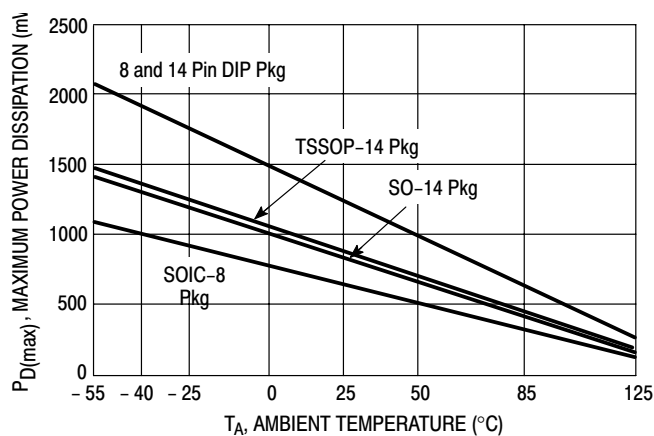

Figure 2. Maximum Power Dissipation versus Temperature
- Power dissipation must be considered to ensure maximum junction temperature (T_J) is not exceeded. (See Figure 2)